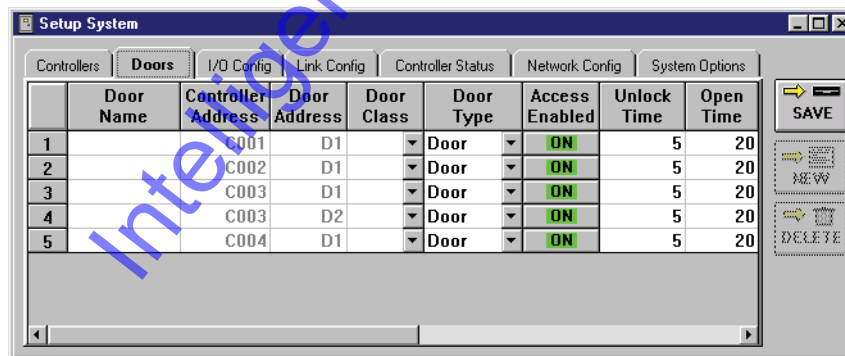

Figure 3-19: Setup Doors Tab - Part 1
1. To assign a door name, click on the Setup ⇒ System pull-down menu or click on the  tool bar button. Then click on the **Doors** tab. The Setup Doors window appears (see Figure 3-19).